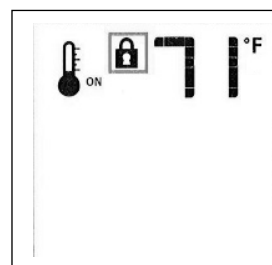

Figure 78. Lock ON.
- To activate the Lock, press the Mode key and UP Key at the same time. Fig. 78.